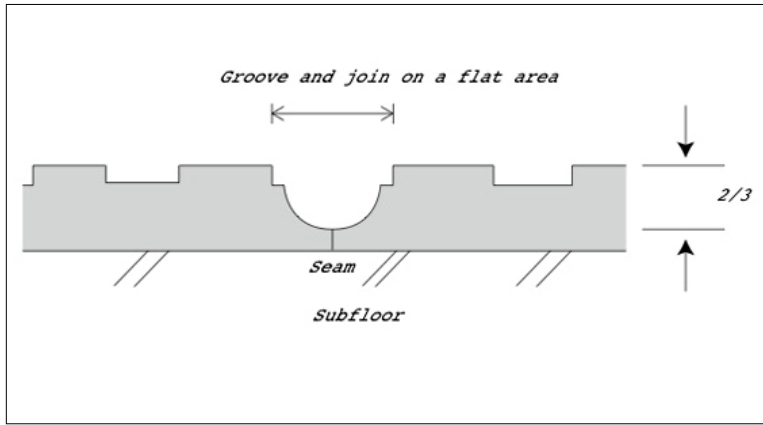

Fig 13
- ◆ Groove only wide enough to accept a maximum 3.5 mm welding thread. Groove depth should be two-thirds (2/3) of the product thickness. See Fig 13.